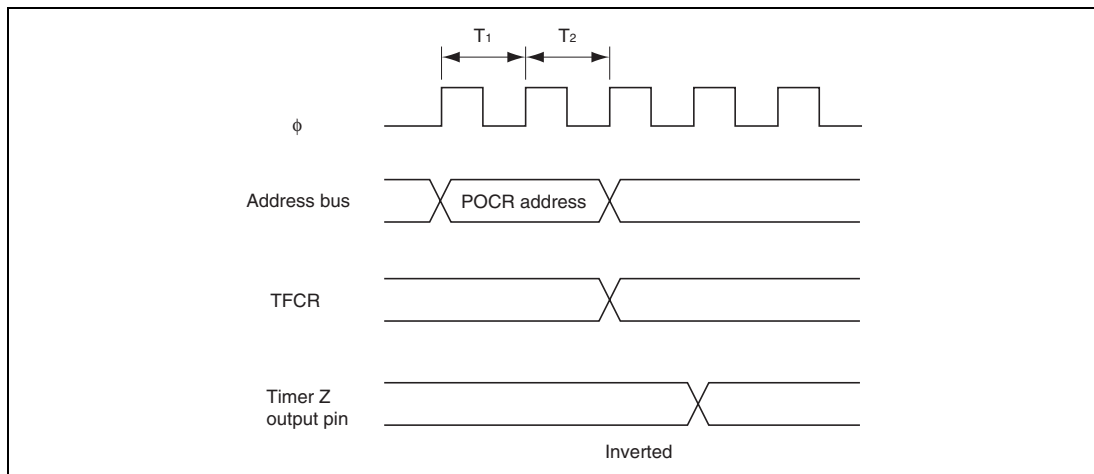

Figure 13.47 Example of Output Inverse Timing of Timer Z by Writing to POCCR
4. **Output Inverse Timing by POCCR:** The output level can be inverted by inverting the POLD, POLC, and POLB bits in POCCR in PWM mode. Figure 13.47 shows the timing.